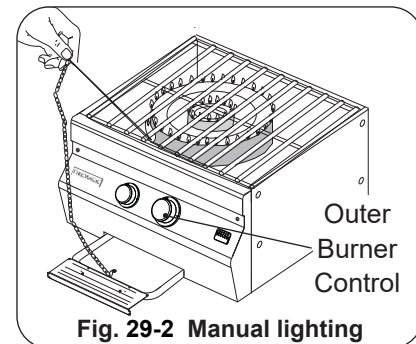

Fig. 29-2 Manual lighting
WARNING: **DO NOT** put hand directly above the burner when lighting but off to the side as shown (Fig. 29-2).
- 2a. Insert either a burning long-barrel butane lighter, a burning long-stem match, or a burning match held by a wire extension holder through the cooking grids to the desired burner to be lit (Fig. 29-2). **With the flame still next to the burner, depress the corresponding control knob (outer burner- right knob, inner burner- left knob), and while pressing turn it counterclockwise to the HI LIGHT position.** Remove the lighter or match when the burner lights, and release the control knob.
3. If the burner does not light within five (5) seconds of turning the control knob, **IMMEDIATELY** turn the burner control knob to the **OFF** position. **WAIT FIVE MINUTES** before repeating steps 2 and 3 of the **MANUAL LIGHTING INSTRUCTIONS**.